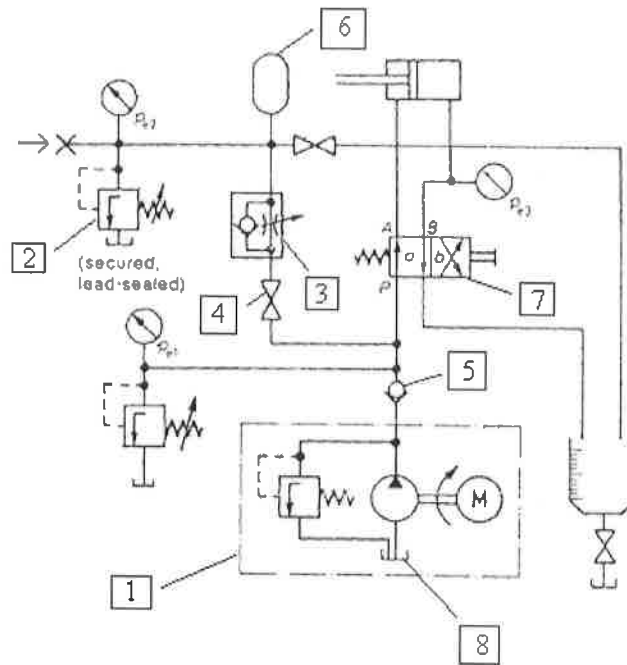

Figure 1
- a) A hydraulic system is used in a production line with circuit diagram shown in Figure 1. Answer the following questions based on the circuit diagram.